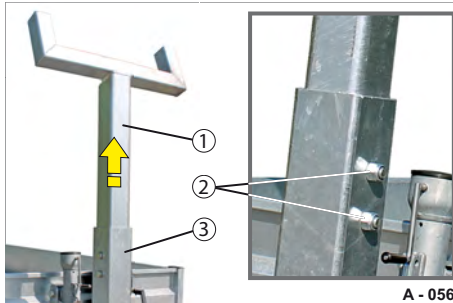

Fig. 60 U-tube fork
- ▶ Release the screw fitting (Fig. 60/2) on the mount.
- ▶ Pull out the U-tube fork (Fig. 60/1) in an upward direction.